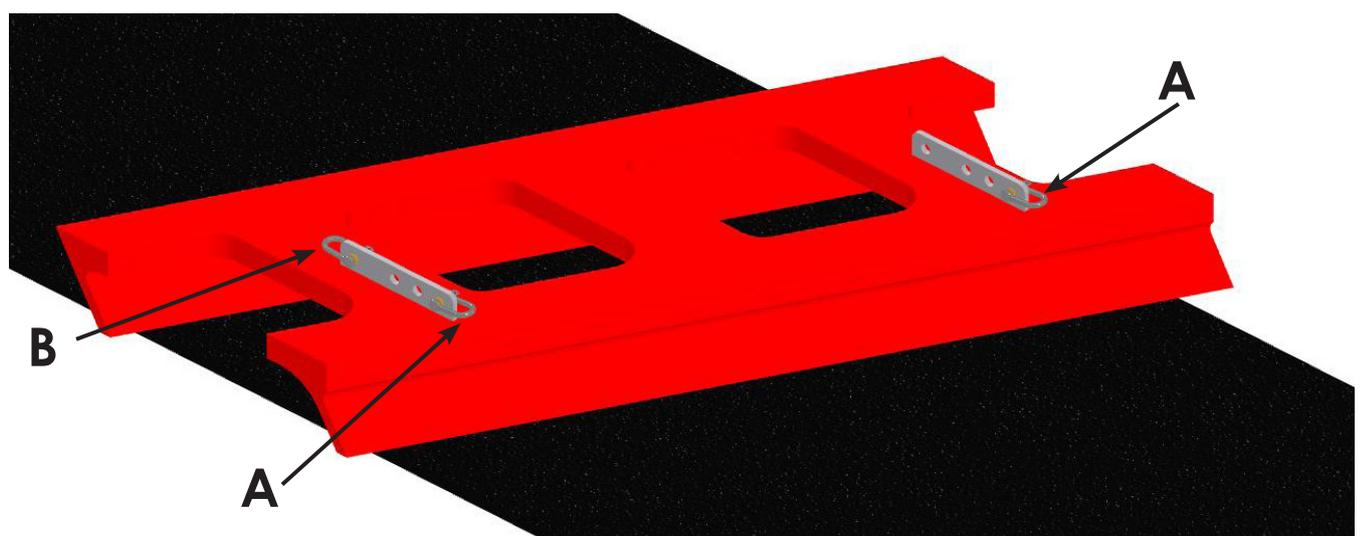

Figure 3
Attach one shackle from the VLI Side Plough Mounting Kit to each of the leading holes (A) on the plough mount brackets and one to the rear most bracket hole (B) of the trailing side of the plough. Refer to Figure 3. When mounted this allows the plough to float across the belt and find its position.